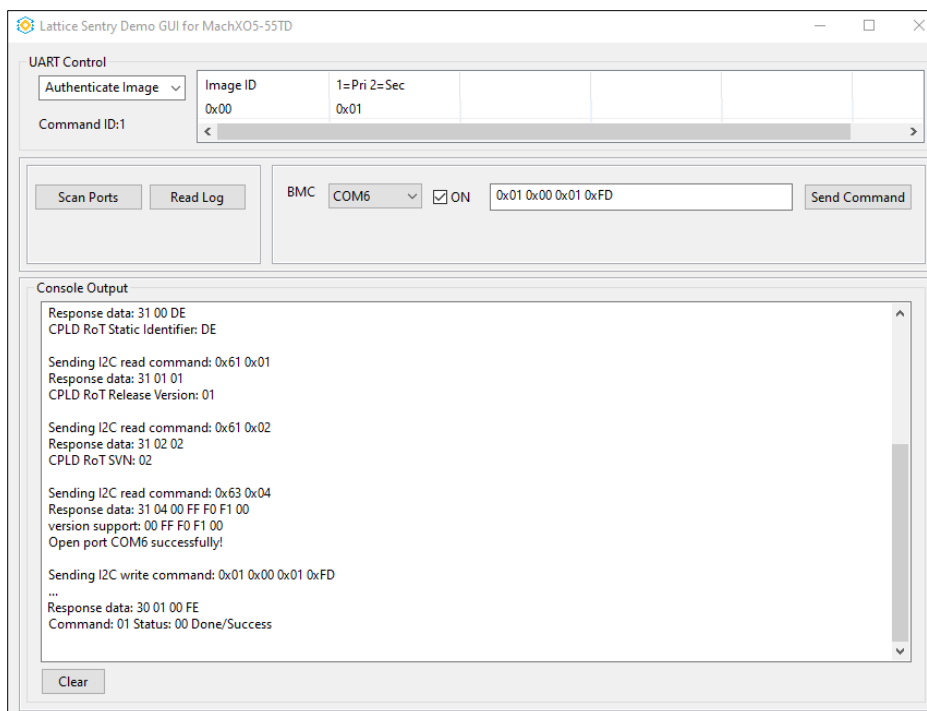

Figure 9.8. Lattice Sentry Demo GUI Send Command
11. After the command is sent, data should be displayed on the LFMXO5-55TD serial terminal from UART print statements. A **Done/Success** message should be displayed on the demo GUI terminal (Figure 9.8).